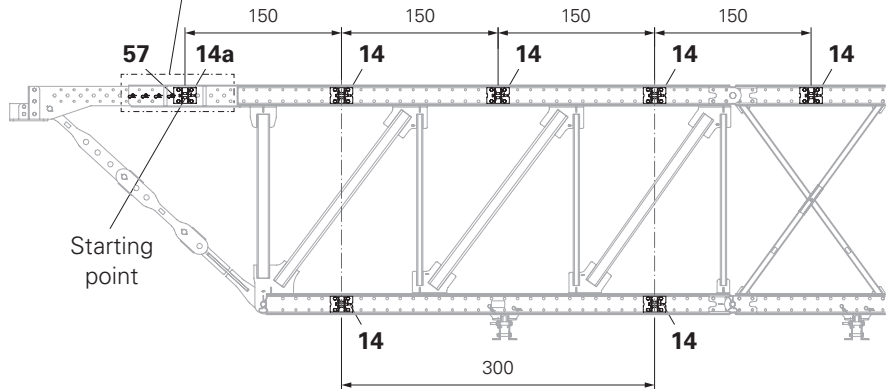

Fig. B3.01
- For Support Frames 6.0 m VRB, the distance is 150 cm in each case. (Fig. B3.01)
4. Fit coupling connections (**14**) in the bottom chord in the same way. The spacing is 300 cm in each case. (Fig. B3.01 – B3.03)